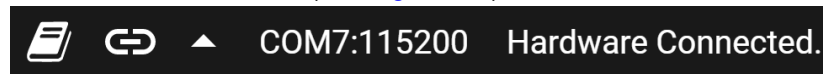

Figure 3-4. Hardware Connected
2. With the EVM connected to the GUI, close the README.md file page. The text near the bottom-left corner of the GUI should read *Hardware Connected* (see Figure 3-4).